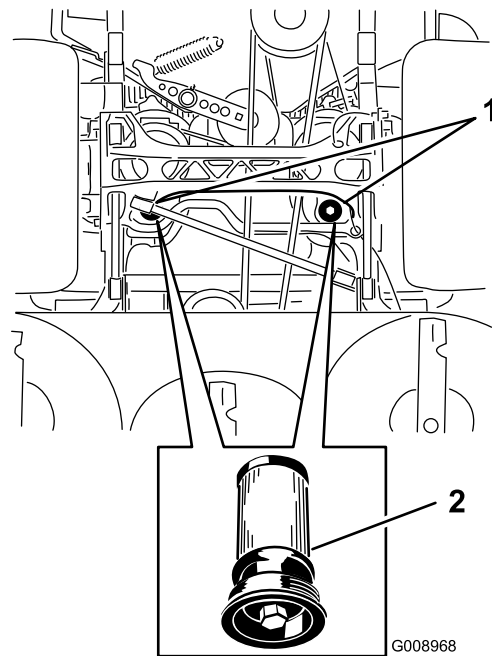

Figure 91
5. Place a drain pan under the filter, remove the old filter, and wipe the surface clean (Figure 91).
6. Apply a thin coat of hydraulic fluid to the rubber gasket on the replacement filter (Figure 91).